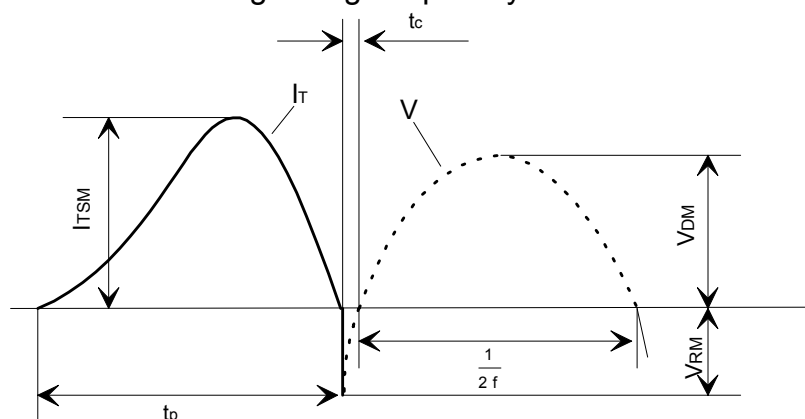

Fig. 3
5) Gate barrier with thyristors suppresses the ignition pulses when exceeding a defined current release value. The thyristors are stressed with one current - half wave (Fig. 3) with following reverse and forward blocking voltage. This anticipates that the semiconductors still have sufficient reverse - and blocking voltage capability.